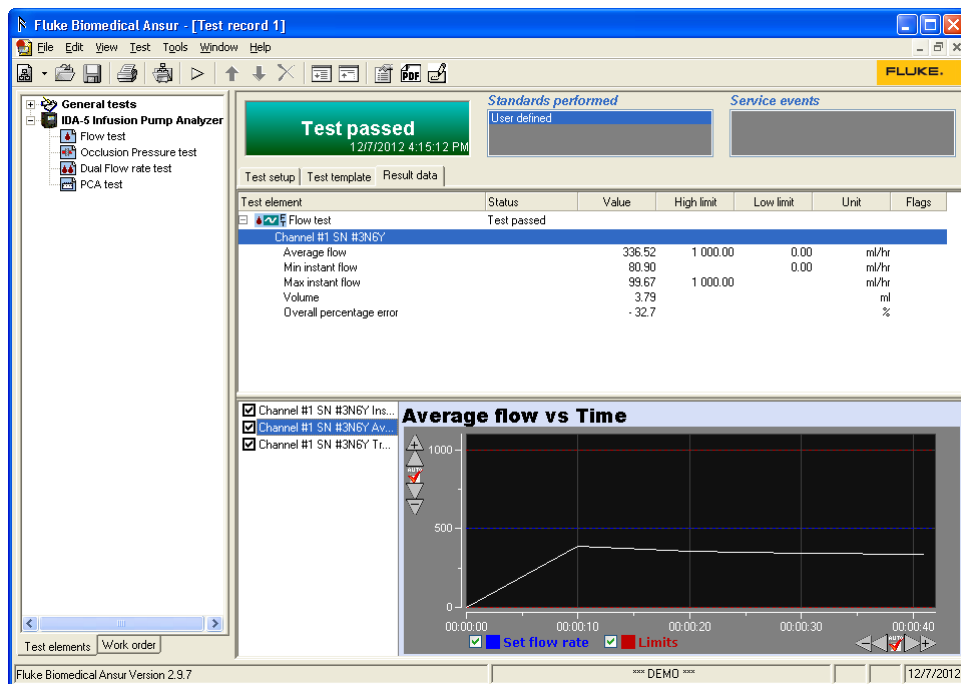

Figure 4-14. Detailed Test Results
Detailed test results show at the bottom of the Test Record window. See Figure 4-14.
*In Figure 4-14, the Test Explorer is hidden to give more room for test results. To hide the Test Explorer in the Ansur main menu, click **View Ansur Explorer**. To show the Test Explorer, click Ansur Explorer again.*